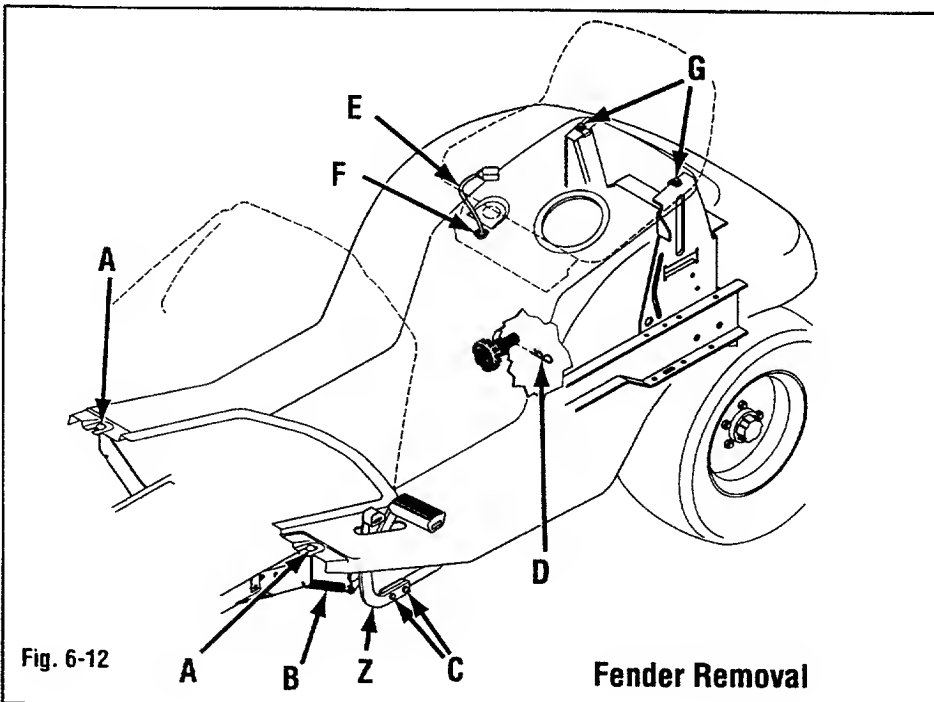

Fig. 6-12
- Remove bolts and nuts retaining two front edges of fender to frame (A, Fig. 6-12).
Install fender by reversing removal sequence. Re-assemble with brake pedal assembly (Z, Fig. 6-12) to outside of brake arm. Tighten all hardware (C) securely.